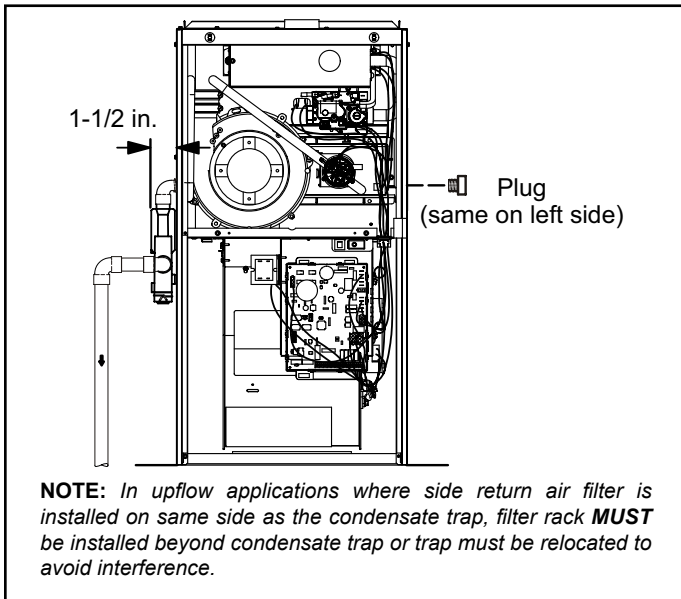
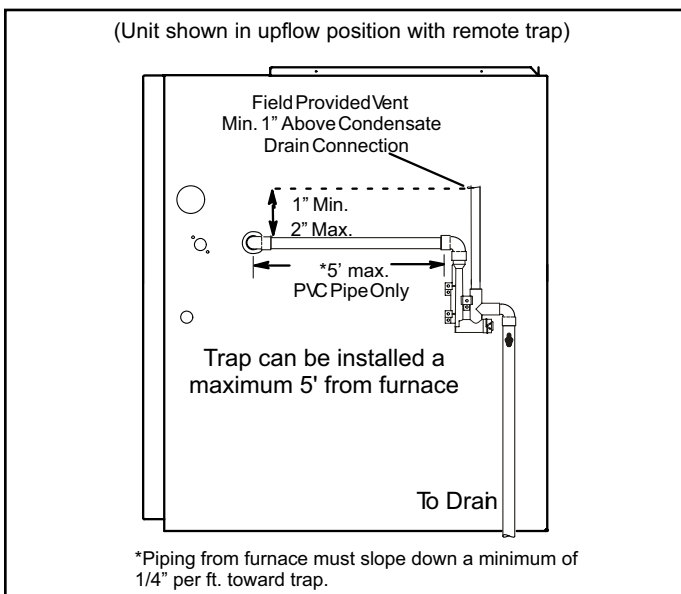
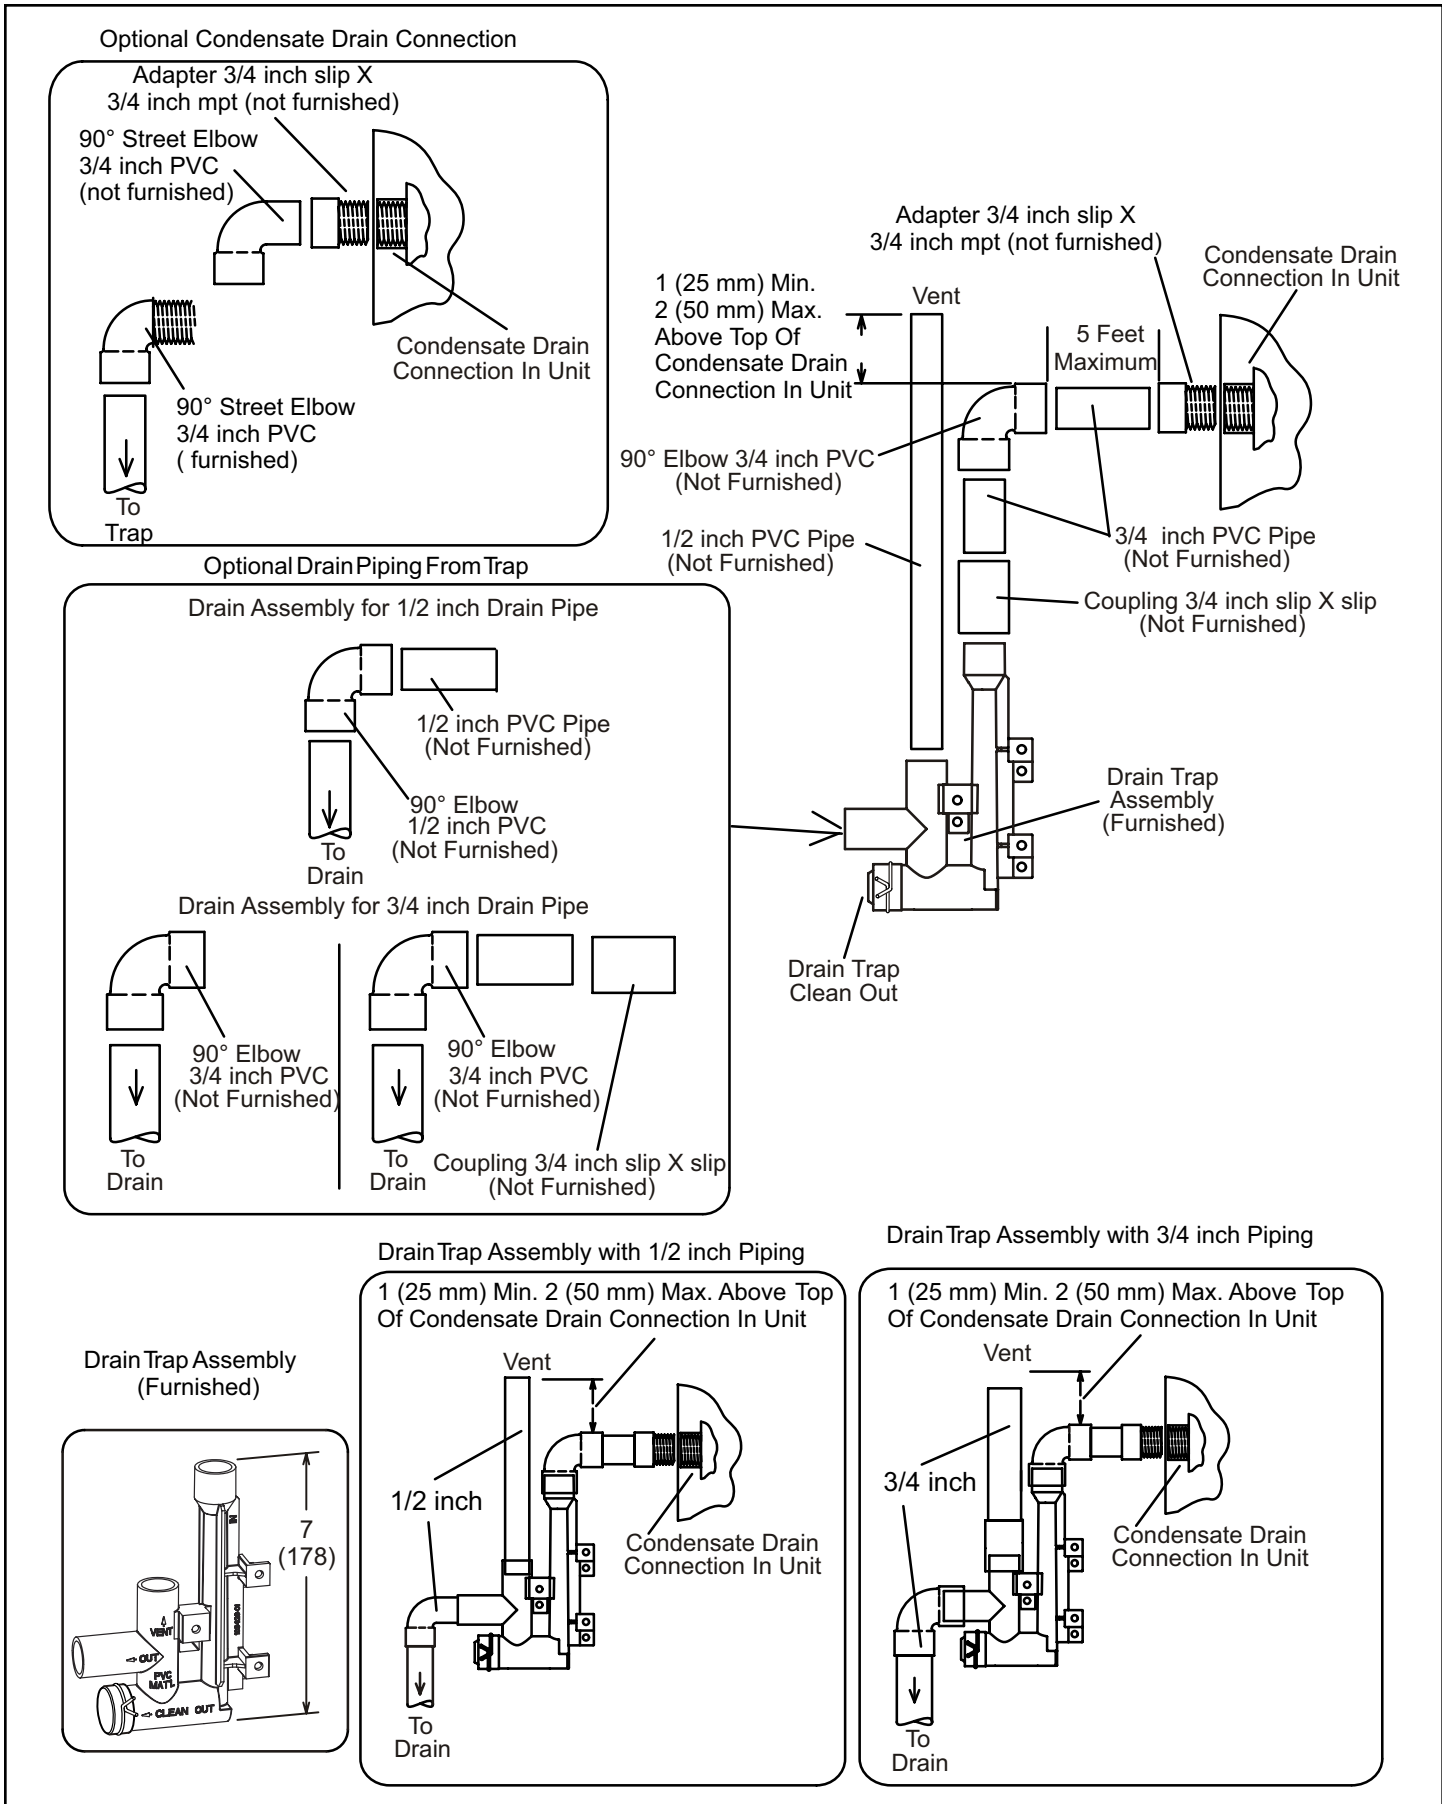
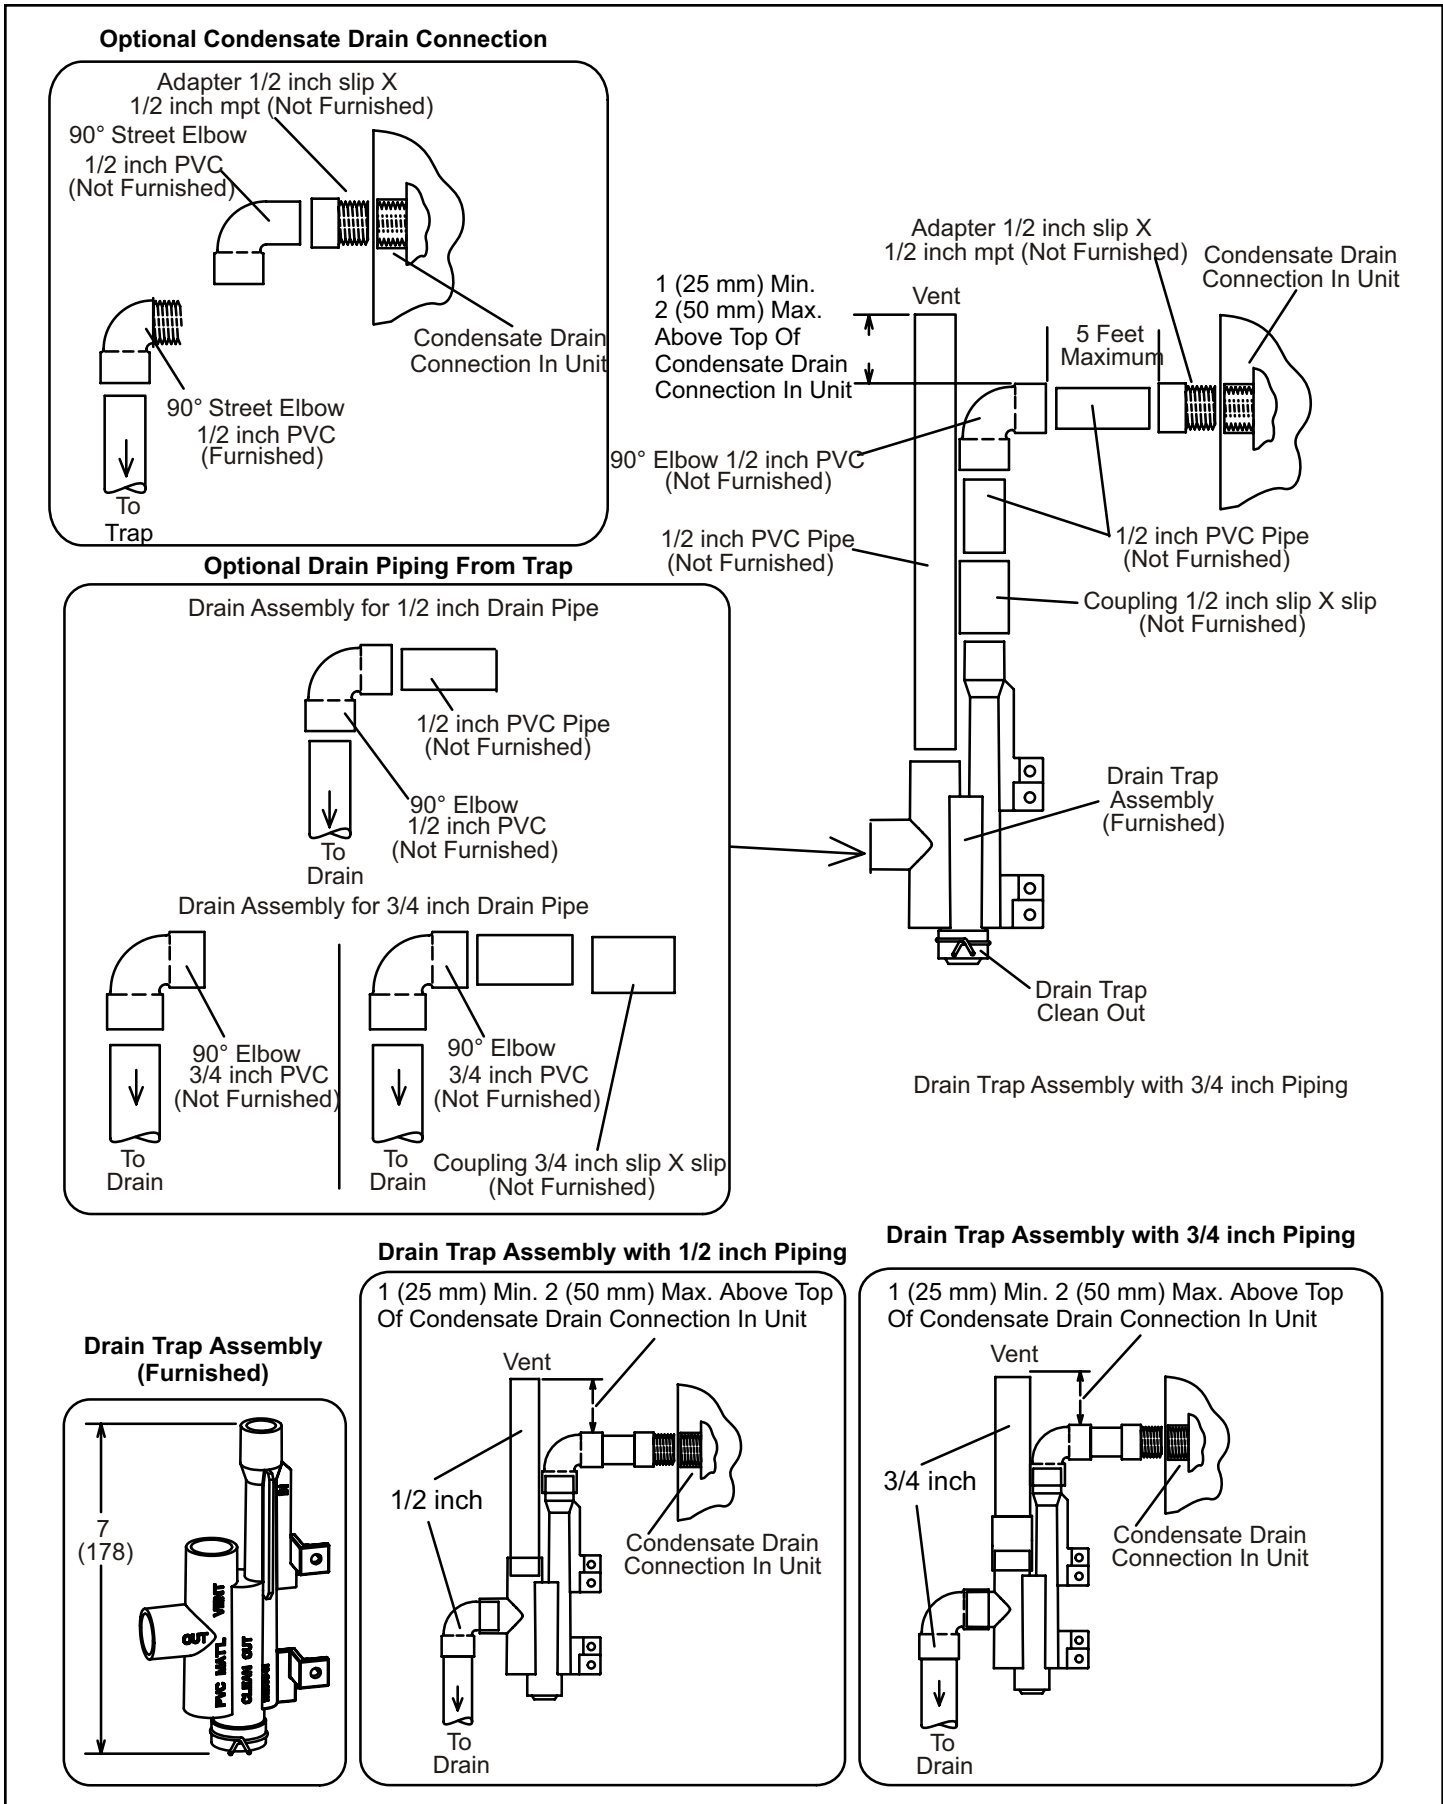

Figure 44. Condensate Trap and Plug Locations (Unit Shown in Upflow Position)
Figure 45. Condensate Trap Locations
Figure 52. Trap / Drain Assembly Using 1/2" PVC or 3/4" PVC Cold End Header Box with 3/4" Drain Connection
Figure 53. Trap / Drain Assembly Using 1/2" PVC or 3/4" PVC Cold End Header Box with 1/2 Drain Connection
This unit is designed for either right- or left-side exit of condensate piping in upflow applications. In horizontal applications, the condensate trap must extend below the unit. An 8" service clearance is required for the condensate trap. Refer to Figure 44 and Figure 45 for condensate trap locations. Figure 52 and Figure 53 show trap assembly using 1/2" PVC or 3/4" PVC.
2. For furnaces with a 1/2" drain connection use a 3/8 allen wrench and remove plug (Figure 44) from the cold end header box at the appropriate location on the side of the unit. Install field-provided 1/2 NPT male fitting into cold end header box. For furnaces with a 3/4" drain connection use a large flat head screw driver or a 1/2" drive socket extension and remove plug. Install provided 3/4 NPT street elbow fitting into cold end header box. Use Teflon tape or appropriate pipe dope.
3. Install the cap over the clean out opening at the base of the trap. Secure with clamp. See Figure 52 and Figure 53.
4. Install drain trap using appropriate PVC fittings, glue all joints. Glue the provided drain trap as shown in Figure 52 and Figure 53. Route the condensate line to an open drain. Condensate line must maintain a 1/4" downward slope from the furnace to the drain.